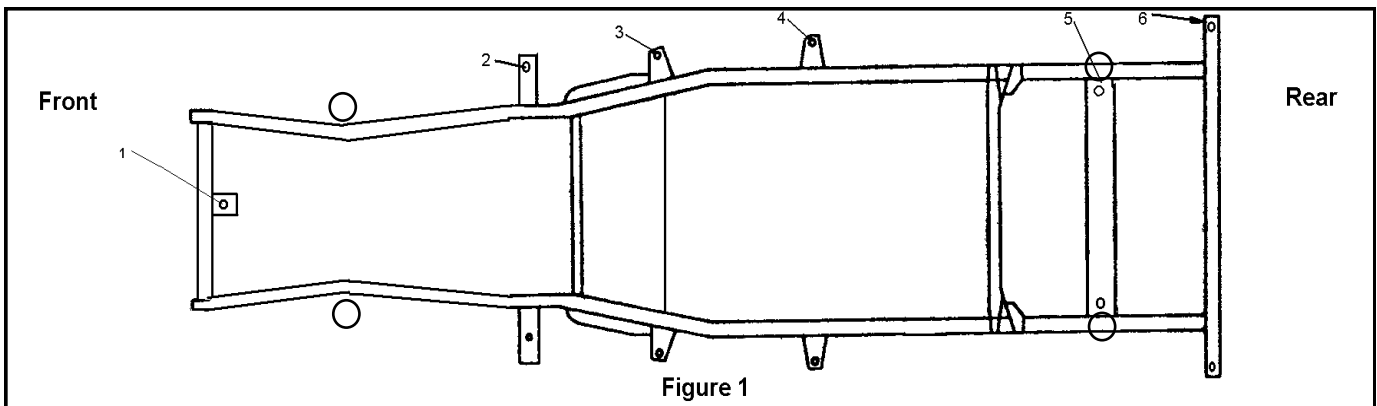

Figure 1
6. Place a stout piece of wood on a floor jack and place the jack between body mount 3 and 4 on the channel portion of the body. Jack up the body just enough to install the 1 inch pucks on top of the factory steel washers/rubber insulators. Place the M.O.R.E.™ pucks in locations 2,3,4,5,6. It is recommended that you use a dab of lock-tight on the new longer bolts. Start the new longer bolts in locations 2,3,4,5,6. Do not tighten at this time. **See Figure 1** for locations of body mounts.
Positions :1,5, and 6 : MO2288 , M02429 , S10125 See Figure 1
Positions : 2,3, and 4 : M02348 , MO2350 , S10125 See Figure 1